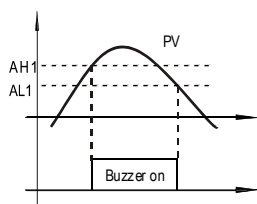
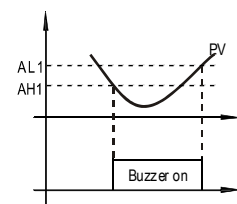

Figure 4. Absolute high alarm
Figure 5. Absolute low alarm
**AH1** and **AH2** are the temperatures to turn buzzer on; **AL1** and **AL2** are the temperatures to turn buzzer off. When **AH1 > AL1** (or **AH2 > AL2**), the Alarm 1 (or Alarm 2) is set as absolute high alarm as shown in Figure 4 below. When **AH1 < AL1** (or **AH2 < AL2**), the Alarm 1 (or Alarm 2) is set as absolute low alarm as shown in Figure 5 below. When **AH1 = AL1** (or **AH2 = AL2**), the alarm is deactivated.